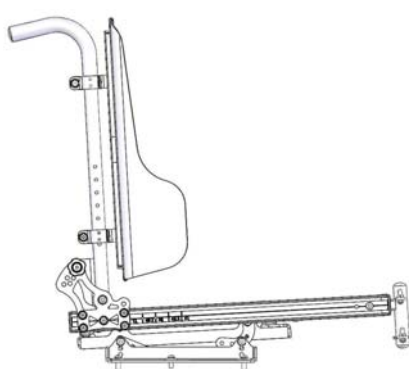

Figure 5-100
5.3.7.5 KISS Seat with manual reclining option is shown a Figure 5-100.